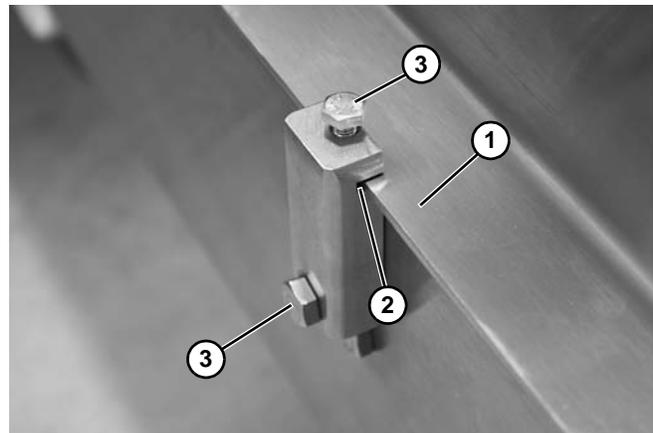

Figure 19
3. Install guide (Figure 19, item 1) into the slot (Figure 19, item 2) of the mounting block and tighten bolts (Figure 19, item 3).